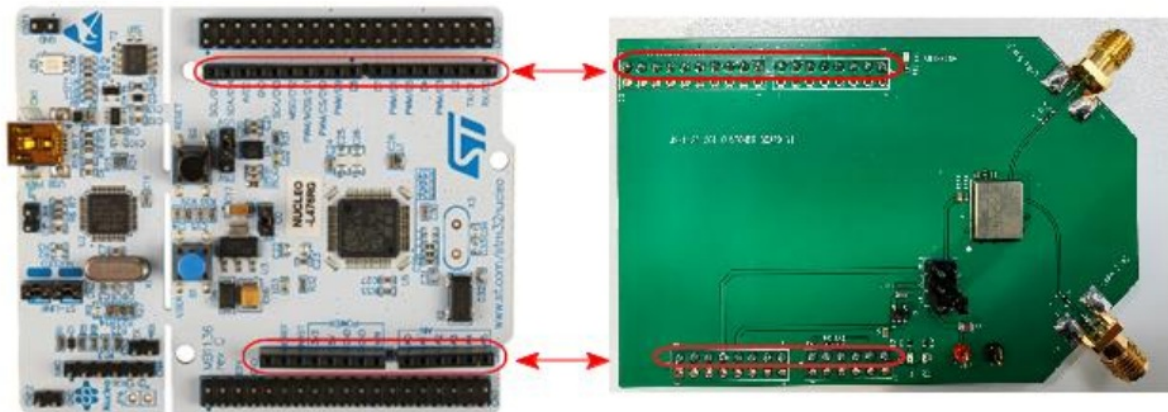

Figure 6: Connection between EVB and NUCLEO-L476RG platform
**STEP1:** Connect the EVB to the NUCLEO-L476RG. Make sure the pins are connected in the red areas on the EVB and platform as showed in the figure 6.